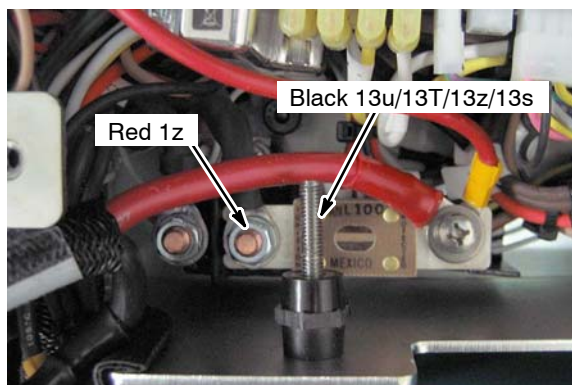

Fig. 5
3. Connect red wire (1z) to the brush contactor terminal and the black wires (13u/13T/13z/13s) to the ground stud (Figure 5).